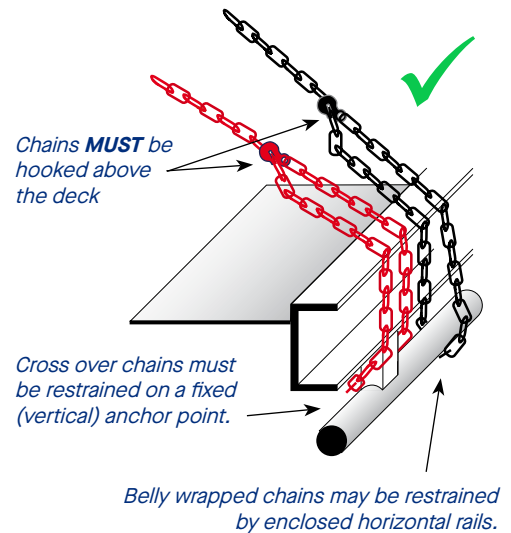

Fig. 7: Belly wrapped and cross over chain arrangement
- All cross over chains **MUST** be anchored to a fixed (vertical) anchor point on the KT & KHS bases. Belly wrapped chains can be secured along the horizontal load bars. (Fig. 7)